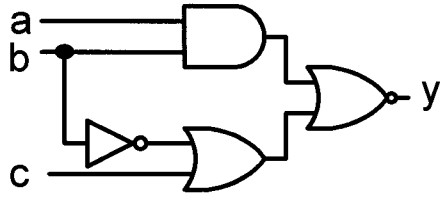

Figure 5
5) In figure 5, show the fault list at the output y based on deductive fault simulation. Assume test patterns are $abc = 001, 100,$ and 010 respectively. (8 marks)